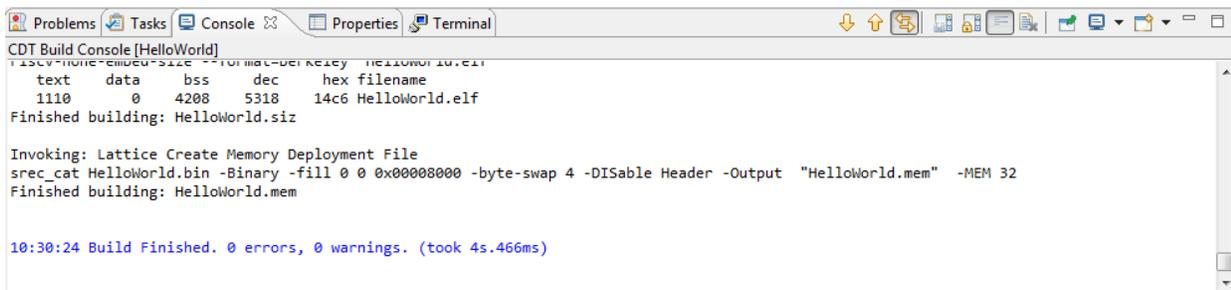

Figure 4.10. Build Result of HelloWorld C Project
8. Check the build result from the Console view (Figure 4.10).